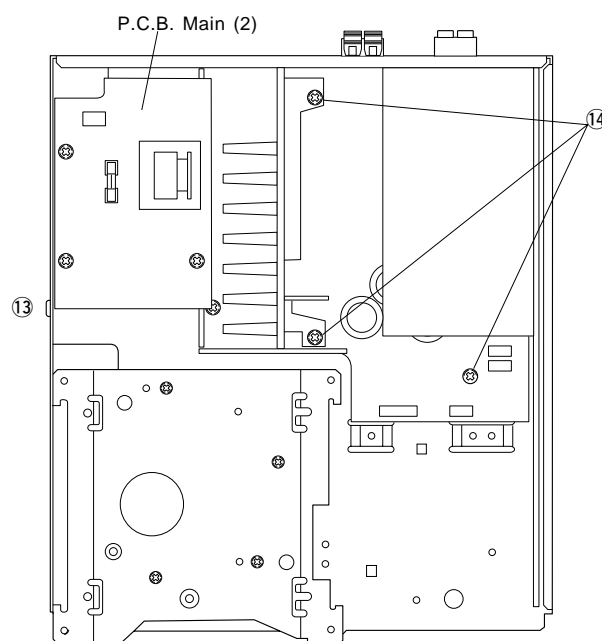

Fig. 8
- f. Remove 1 screw (13) and then remove the P.C.B. Main (2) in Fig. 8.
- g. Remove 3 screws (14) in Fig. 8.